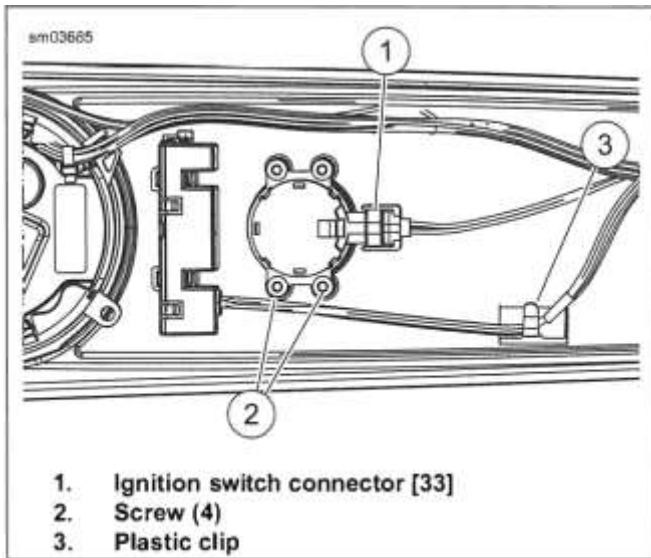

Figure 8-12. Instrument Console (Road King)
1. See Figure 8-12. Disconnect ignition switch connector (1).
2. Release ignition switch conduit from plastic clip (3), if necessary.
3. Remove screws (2).
1. See Figure 8-12. Install ignition switch with screws (2). Tighten in a cross-wise pattern.